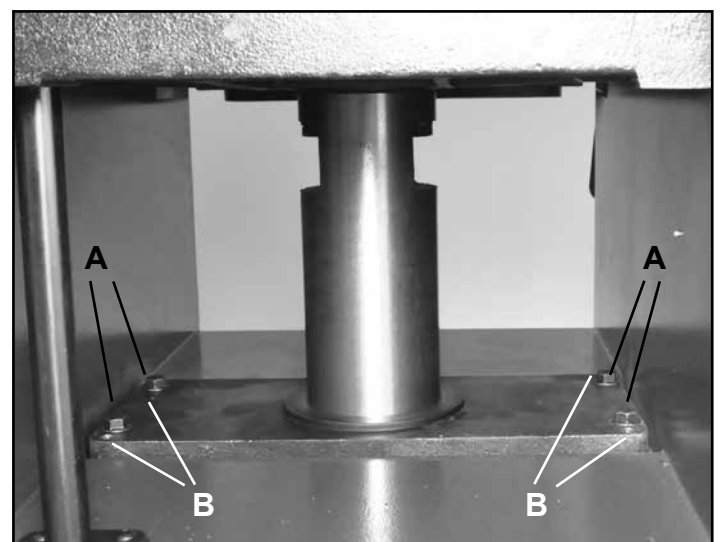

FIG. 26
7. The planer table assembly is attached to the cabinet by four Hex Bolts (#184, FIG. 26, A). Next to these bolts are four Hex Socket Screws (#180, B) that can be adjusted to raise an end of the planer table so that it will be parallel with the cutterhead.